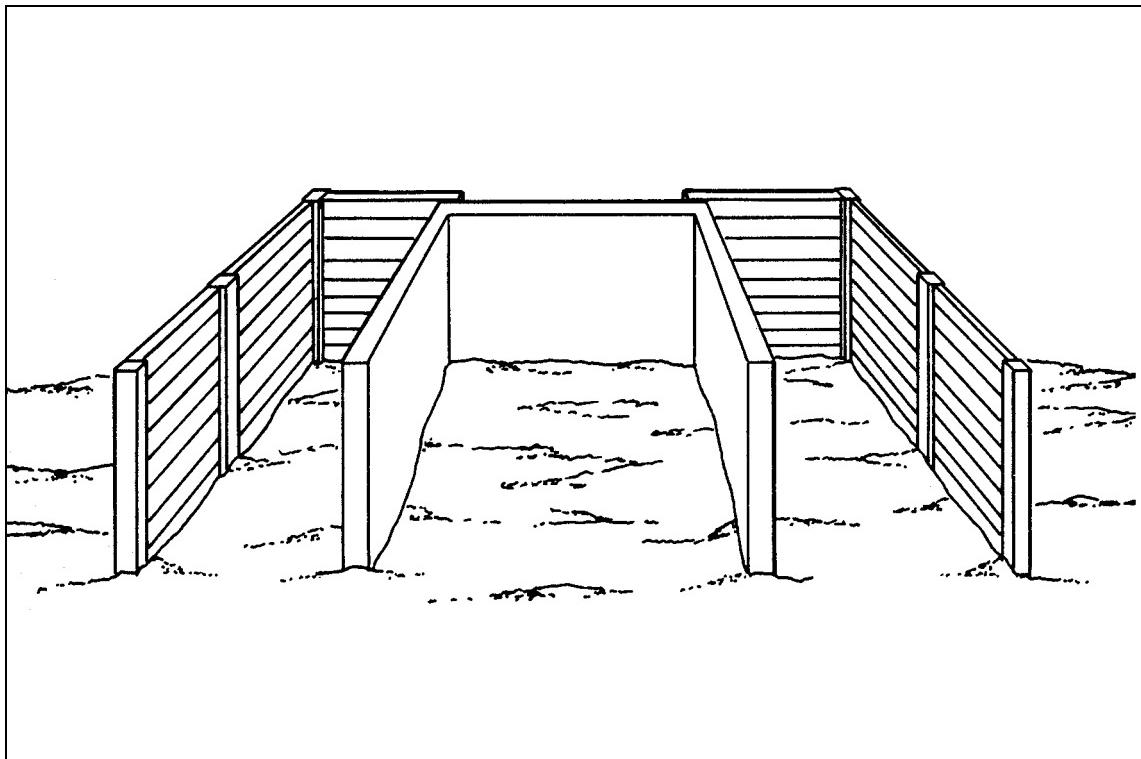

Figure B-2. Throwing pit with safety pits.
b. **Throwing Pit Without Knee Wall.** Throwing pits that do not have knee walls must have safety pits attached to both sides (Figure B-2). In most instances, the throwing pit safety NCO reacts to a dropped live grenade by yelling GRENADE to alert other personnel in the area and by physically moving the thrower out of the throwing pit and into a safety pit. If the hand grenade is dropped to the rear of the throwing pit, the throwing pit safety NCO yells GRENADE and forces the thrower over the front of the throwing pit. He follows the thrower over the wall. The safety NCO's first responsibility is the thrower's safety. His immediate action must be to remove the thrower from the danger area.